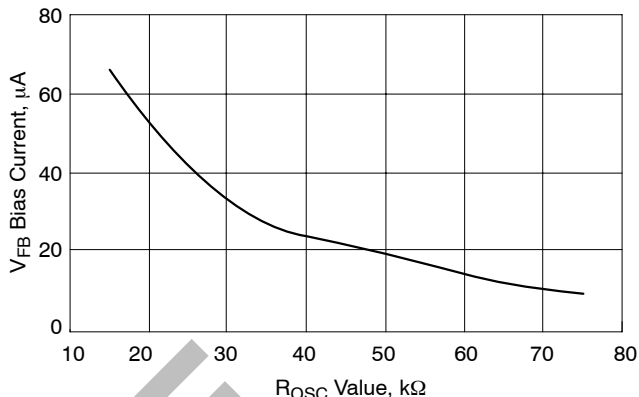

Figure 4. V_{FB} Bias Current vs. R_{OSC} Value
- The V_{FB} Bias Current changes with the value of R_{OSC} per Figure 4.
To set the no-load positioning a resistor (R9) is placed between the output voltage and V_{FB} pin. The V_{FB} bias current will develop a voltage across the resistor to decrease the output voltage. The V_{FB} bias current is dependent on the value of ROSC. See Figure 4 on the datasheet.